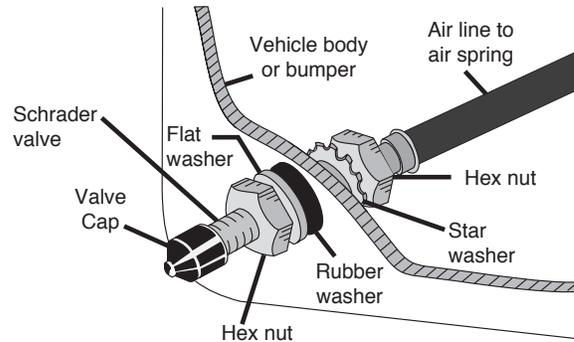

fig. 8
4. Place a 5/16" nut and star washer on the air valve. Leave enough of the inflation valve in front of the nut to extend through the hole and have room for the rubber washer, flat washer, and 5/16" nut and cap. There should be enough valve exposed after installation – approximately 1/2" – to easily apply a pressure gauge or an air chuck. (Fig. 8)